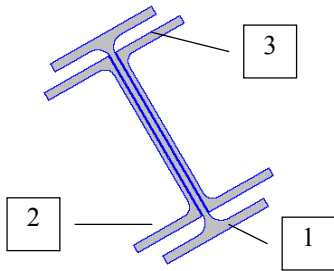

Fig. 49. Section designed
A section (Fig. 49) containing an I-section S5x10 (1) and two channels (2–3) is required.
- ↵ as a result, the channel will be positioned as shown in Fig. 49;